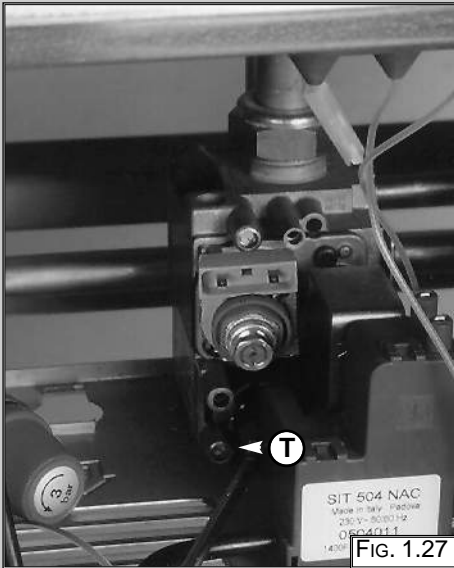

FIG. 1.27
2. Remove the screw "T" (FIG. 1.27);